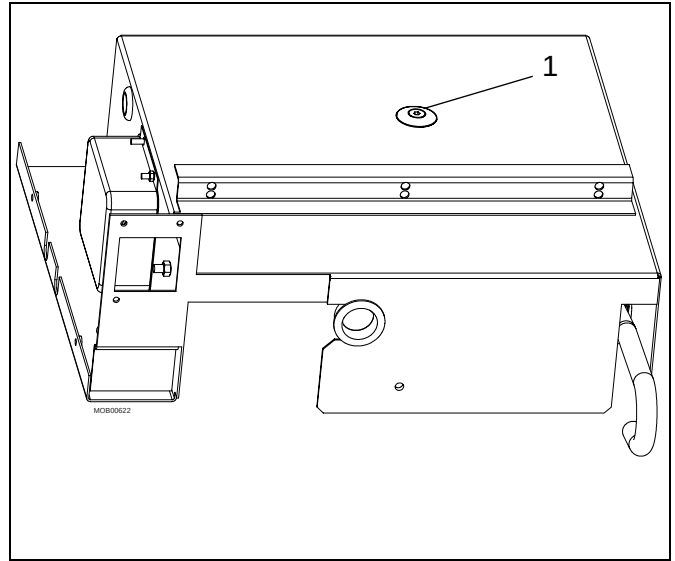

Fig. 7
- Remove the securing screw (pos. 1 / Fig. 7).
- Reinstall the securing screw (pos. 1 / Fig. 7).